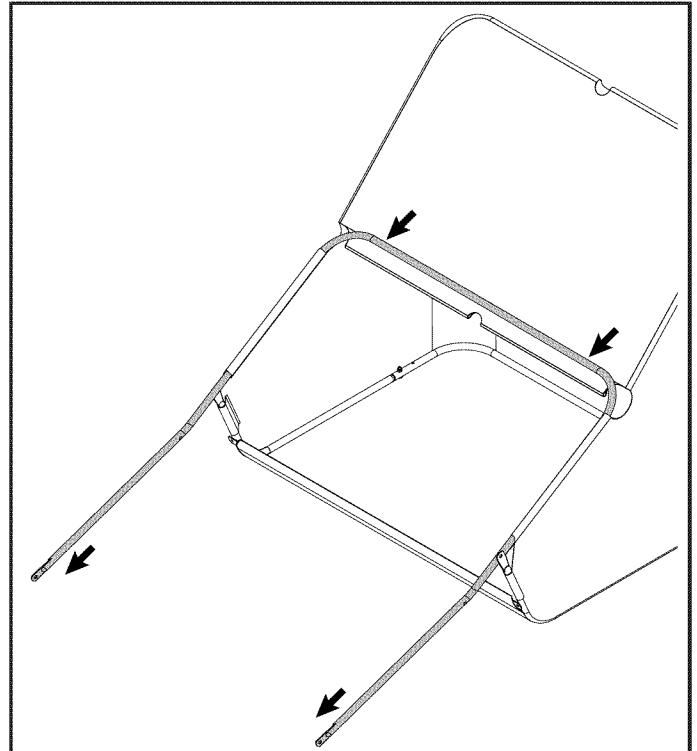

FIGURE 11
**STEP 11: (SEE FIGURE 11)**
- Slide the assembled tubes down through the flaps in the sides of the hopper bag (3) as shown.